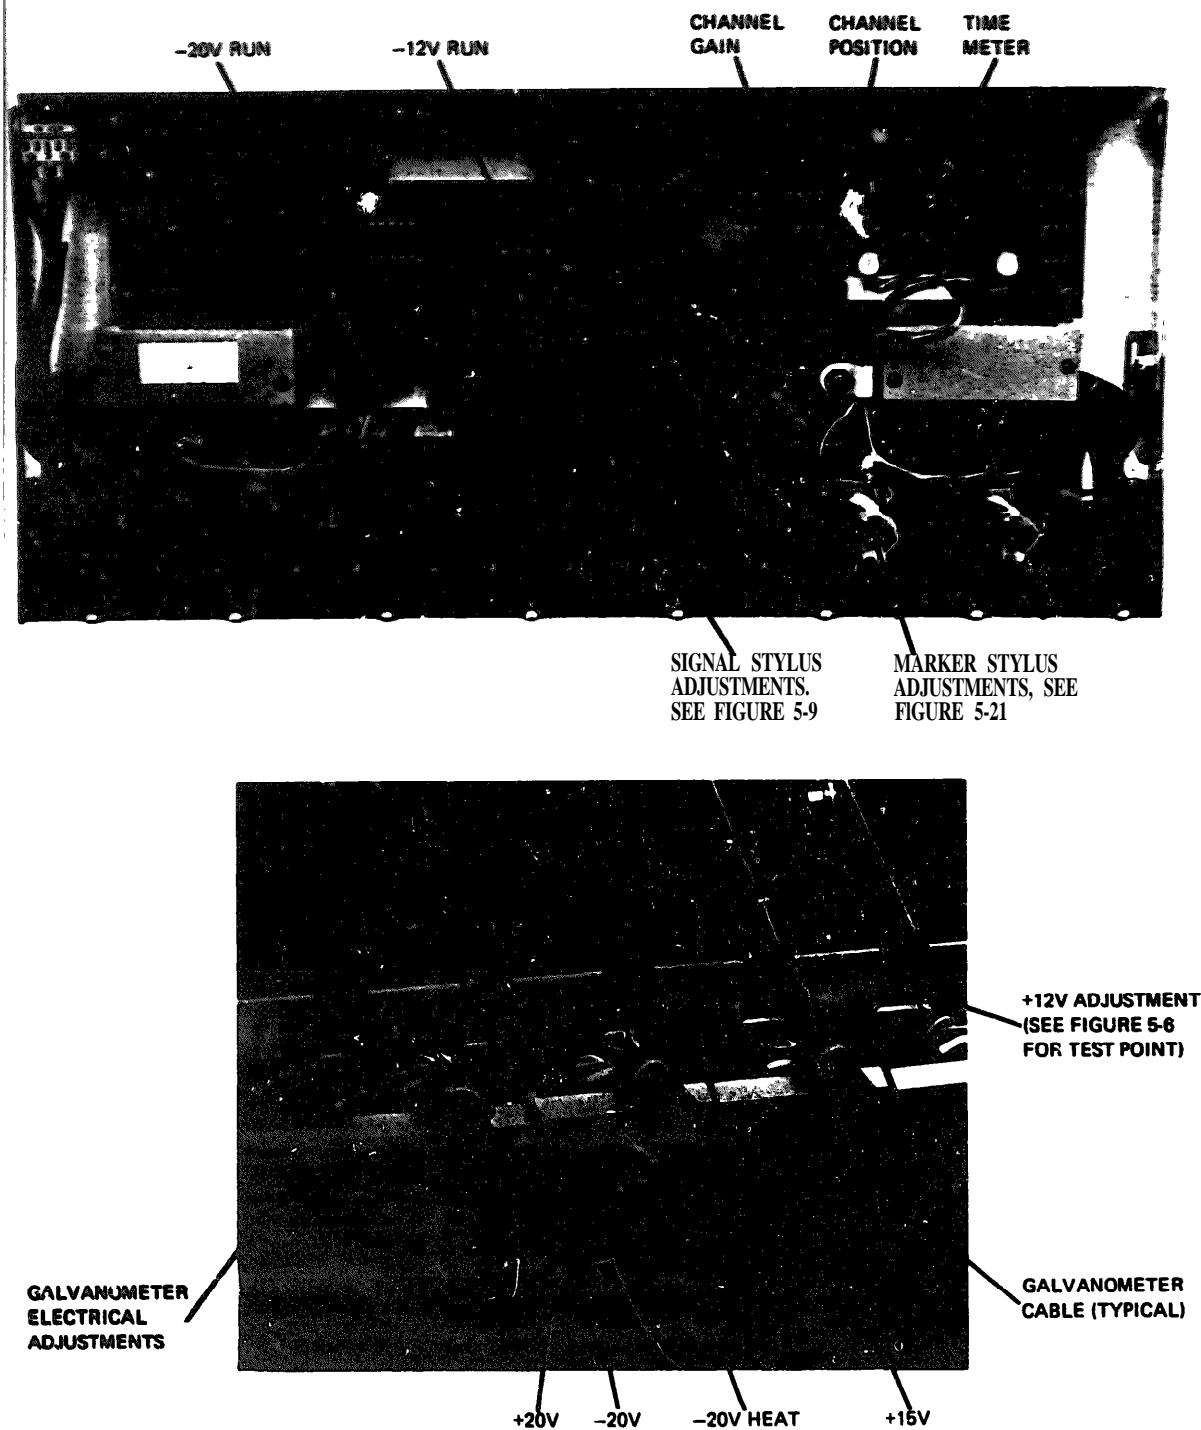

Figure 5-1. Recorder Test and Adjustment Points
h. Stylus Heat: Turn Recorder power ON, set SPEED to 25 mm/sec, and adjust STYLUS HEAT controls for best trace definition. Lift up the front panel and rotate each channel POSITION potentiometer (Figure 5-1) from one extreme to the other. Trace definition should remain the same over the whole channel width. If not, first check for an unlapped stylus. Then check for defects, improper clamping (Paragraph 5-29), or poor stylus pressure. Return stylus position to channel center.
- b. Connect DVM test probe to +20V test point (Figure 5-1) on Transfer Board, and ground. Voltage shown on DVM should vary as follows:
- (1) styli at left (top) of chart, about +19 Vdc.
- (2) styli at right (bottom) of chart, about +21 Vdc.